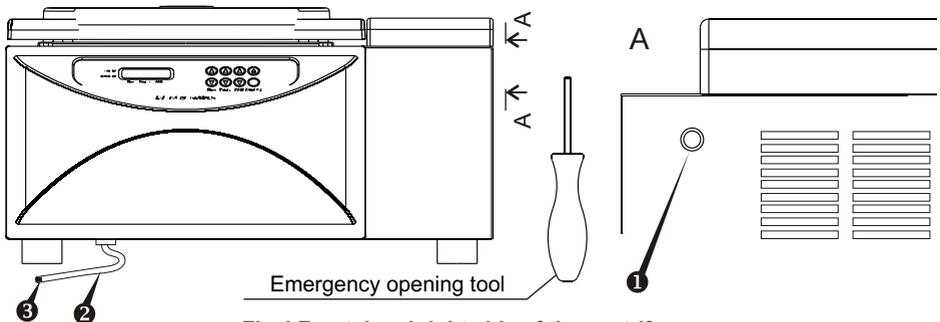

Fig.4 Frontal and right side of the centrifuge
- Rotor R-6 ❶ on request
- Rotor R-12-10 ❷ on request
- Rotor R-12-15 ❸ on request
- Rotor R-2 ❹ on request
- Rotor support stand RR-U ❺ on request
- Adapter sets BN-13-75, BN-13-100 and BN-16-100 for R-12-15 ❻ on request
- make sure that drain hose is plugged (see fig.4/3), to prevent process from the temperature abuse.
Note! While the centrifuge is working drain hose must be plugged (fig.4/③), to prevent process from the temperature abuse.
- Note!** Be sure to cork the drain hose (Fig. 4/ ②) with a stopper (Fig. 4/ ③) in order to avoid the chamber temperature conditions rising.
- To access the emergency opening slot on the right side of the unit insert a small tool for emergency unlocking (fig. 4/A, 4/ ①).
It is necessary to clear away ice and remove condensate from the centrifuge cavity. For easy cleaning, the centrifuge chamber is equipped with a drain hole with tube (fig.4/②). Cleaning the chamber place the tube into an appropriate container and drain the fluid.
Note! Be sure to cork the drain hose (Fig. 4/ ②) with a stopper (Fig. 4/ ③) in order to avoid the chamber temperature conditions rising.